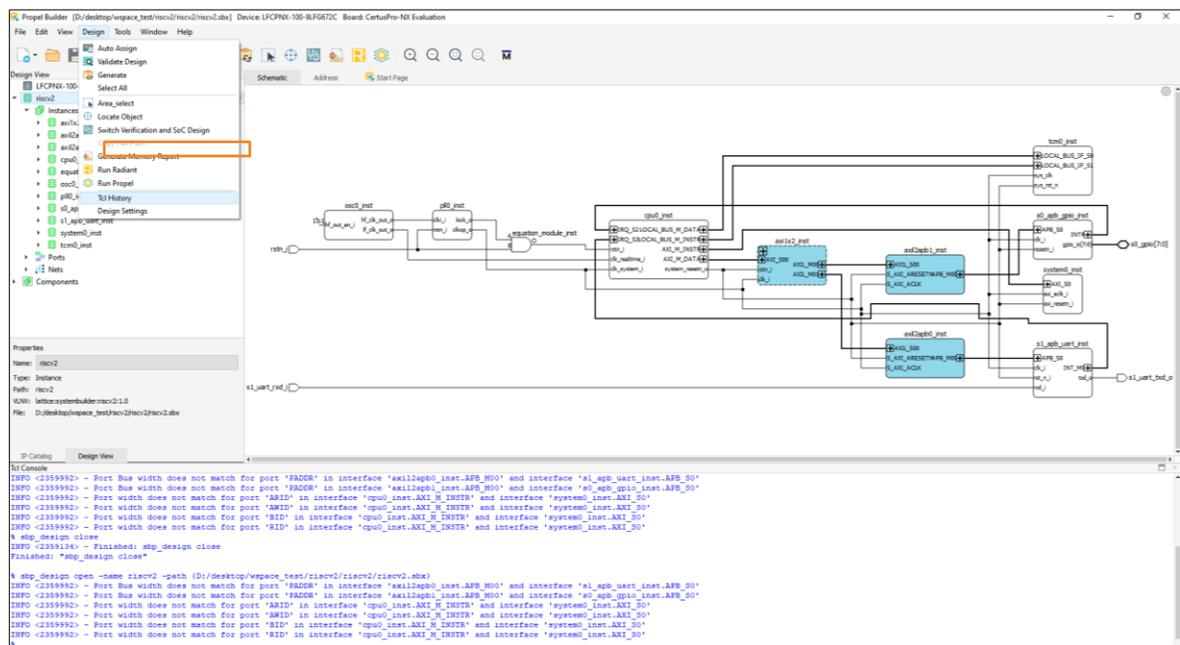
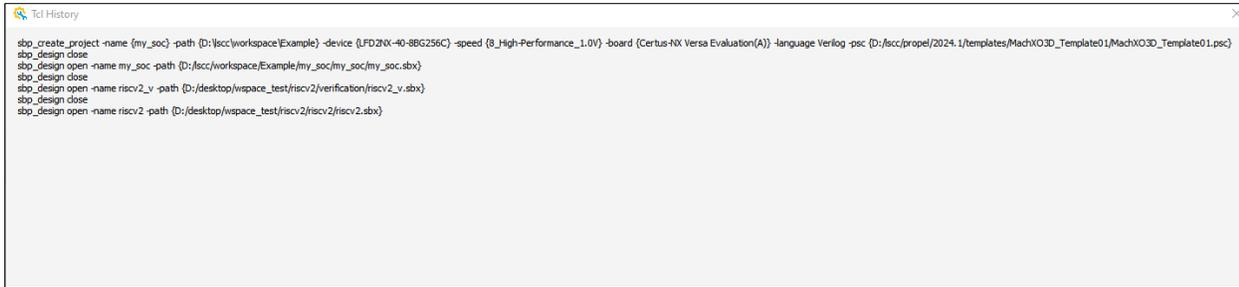

Figure 2.95. Open TCL History
Figure 2.96. TCL History Window
- d. TCL history can be viewed in TCL History window (Figure 2.96) by choosing **Design > TCL History** (Figure 2.95).